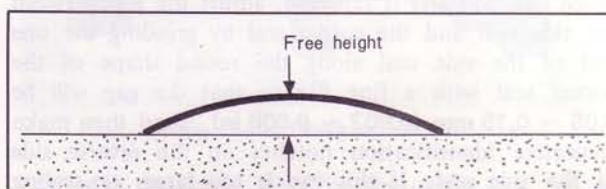

Fig. 1-46 Apex seal spring
6. Check the free height of the apex seal spring as shown in Fig. 1-46. It should be more than 3.8 mm (0.15 in).